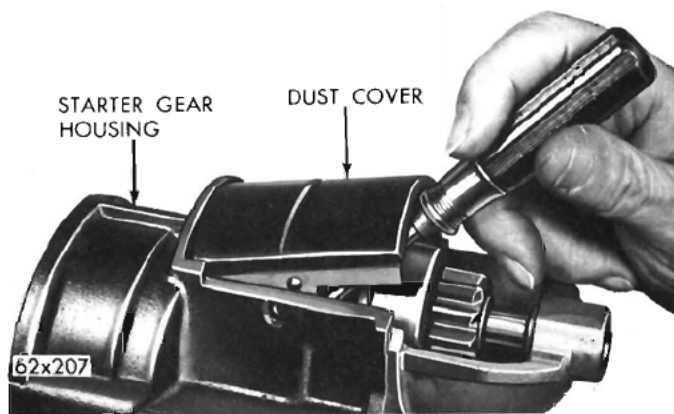

Fig. 7—Removing the Dust Cover
(15) Remove the solenoid return spring from the well of the solenoid housing moving core.
(16) Remove the dust cover from the gear housing, as shown in Figure 7.